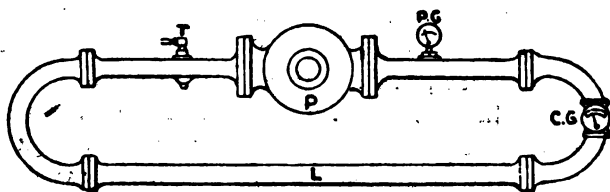
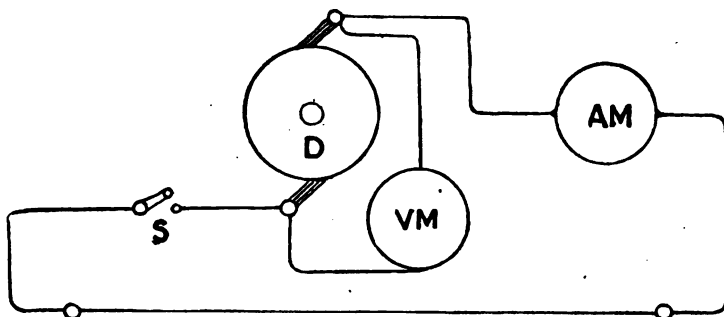

Fig. 139. Simple Hydraulic Circuit with Gauges.
Fig. 140. A Simple Series Circuit, with Instruments.
To make the analogy between the water system and the electrical system more correct, we should suppose a closed circuit of pipes, as shown in Fig. 139, completely filled with water, having a rotary pump P in the circuit, and furnished with a tap R a pressure gauge PG, and a current gauge C G.
In the same way we have to think of an electrical circuit (Fig. 140). The dynamo D is simply a device for producing a difference of electrical pressure, and is put into the circuit to act exactly as the pump does in Fig. 139 if we switch on S, which is comparable with turning on the tap in Fig. 139, and start the dynamo working, the pressure gauge (called the voltmeter) VM will indicate a difference of electrical pressure or an E. M. F., and the current gauge (called an ampere-meter, or for brevity an ammeter) will indicate a current flowing round the circuit. In this case we are not generating electricity, but simply putting into motion electricity that was already there.
Going back to Fig. 139, suppose we turn off the tap T and keep the pump working, then the current meter will indicate no current, but the pressure gauge will indicate a slightly higher pressure than before. Here we have a water-moving force, but the resistance in the circuit is now exceedingly great, consequently no current can flow.
Similarly in Fig. 140 if we switch off, still keeping the dynamo running, the voltmeter will show a slightly higher pressure, while the ammeter will indicate no current. Here again we have the one essential for a flow of electricity round the circuit, but not the other, for in switching off we have introduced into the circuit an enormous resistance.
Let us return again to our water circuit (Fig. 139) and examine it more closely. Imagine the system to be quite full of water, and remember that water is a practically incompressible fluid. If now we have our pump at work with the tap turned off, we shall have a difference of pressure between the two sides of the pump but no current. The moment we turn the tap on the current
This is exactly the case with the current in Fig. 140. If the dynamo be at work we have an E. M. F. in the circuit, but while the switch is off no current can flow. The moment we switch on there is a current in the cir-
1. The E. M. F. in a simple circuit (Fig. 140) is 100 volts, the resistance of the whole circuit is 50 Ohms. What current will flow through the circuit?